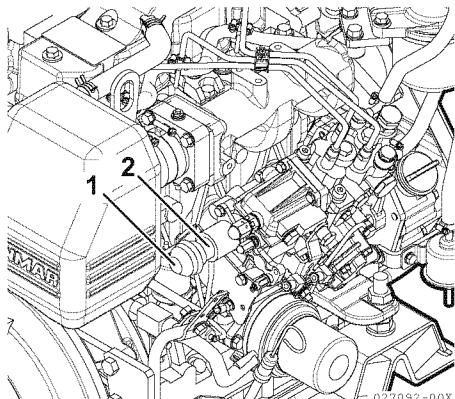

Figure 5
If the engine cannot be shut down by the stop switch on the panel, stop the engine by pushing the button (**Figure 5, (1)**) at the back of the stop solenoid (**Figure 5, (2)**).